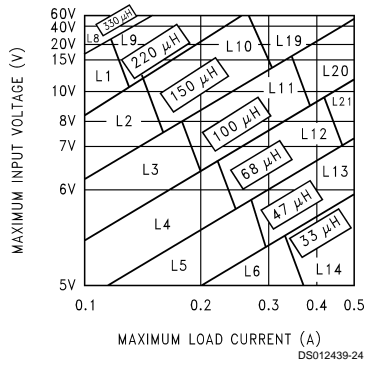
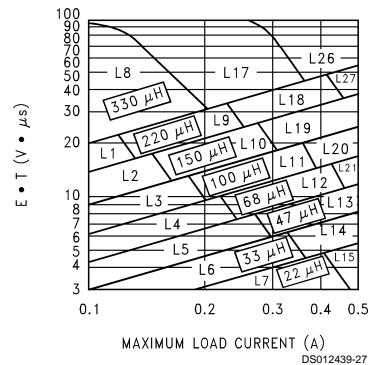
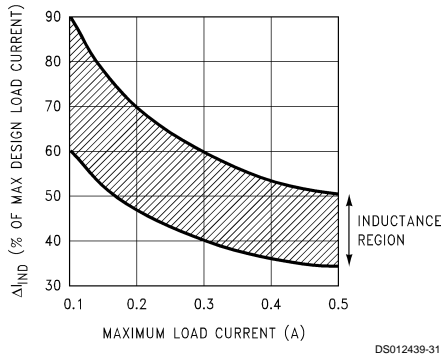

FIGURE 4. LM2594/LM2594HV-3.3
FIGURE 7. LM2594/LM2594HV-ADJ
FIGURE 16. (ΔI_{IND}) Peak-to-Peak Inductor Ripple Current (as a Percentage of the Load Current) vs Load Current
B. Use the $E \cdot T$ value from the previous formula and match it with the $E \cdot T$ number on the vertical axis of the Inductor Value Selection Guide shown in *Figure 7*.
D. From the inductor value selection guide shown in *Figure 7*, the inductance region intersected by the $35 (V \cdot \mu s)$ horizontal line and the $0.5A$ vertical line is $150\mu H$, and the inductor code is L19.
To simplify the inductor selection process, an inductor selection guide (nomograph) was designed (see Figure 4 through Figure 7). This guide assumes that the regulator is operating in the continuous mode, and selects an inductor that will allow a peak-to-peak inductor ripple current to be a certain percentage of the maximum design load current. This peak-to-peak inductor ripple current percentage is not fixed, but is allowed to change as different design load currents are selected. (See Figure 16.)